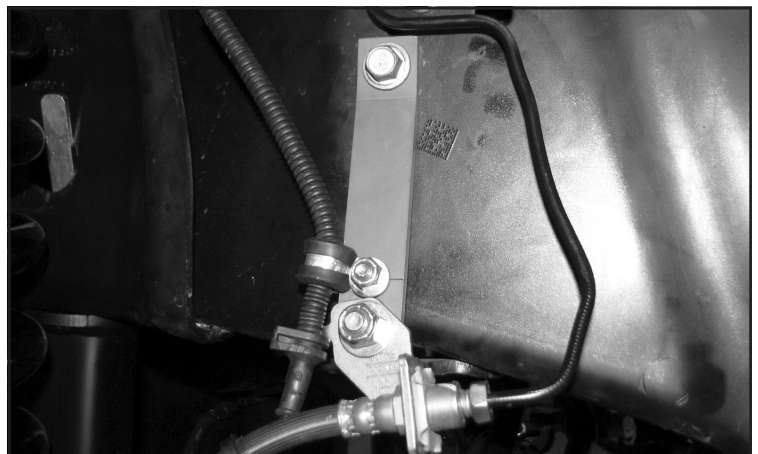

FIGURE 18 - STEP 24
24. **(PASSENGER SIDE)** Install FT30660 (Brake line bracket) to the factory brake line tab using the supplied 3/8" hardware (Use lower hole). Next, using the supplied rubber clamp and 1/4" hardware, attach the ABS line to the upper hole on the FT30660 bracket. Re attach to the frame using the factory hardware. Torque 3/8" & factory hardware to 52 ft-lbs. Torque 1/4" hardware to 14 ft-lbs. **SEE FIGURE 18**